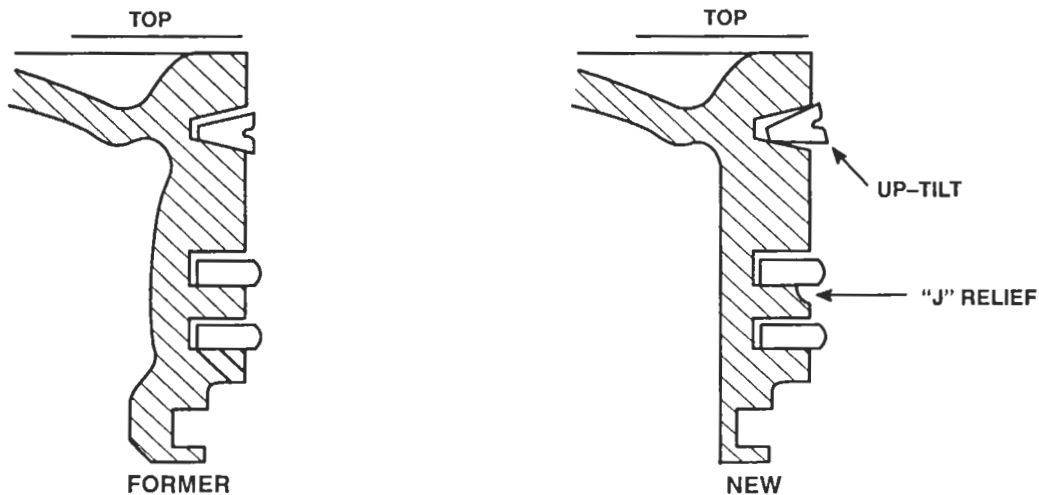

Figure 26. Former and New Piston Ring Crowns
1. The top compression ring groove on the new crown has a "J" relief machined in the bottom ring land (Figure 26.).